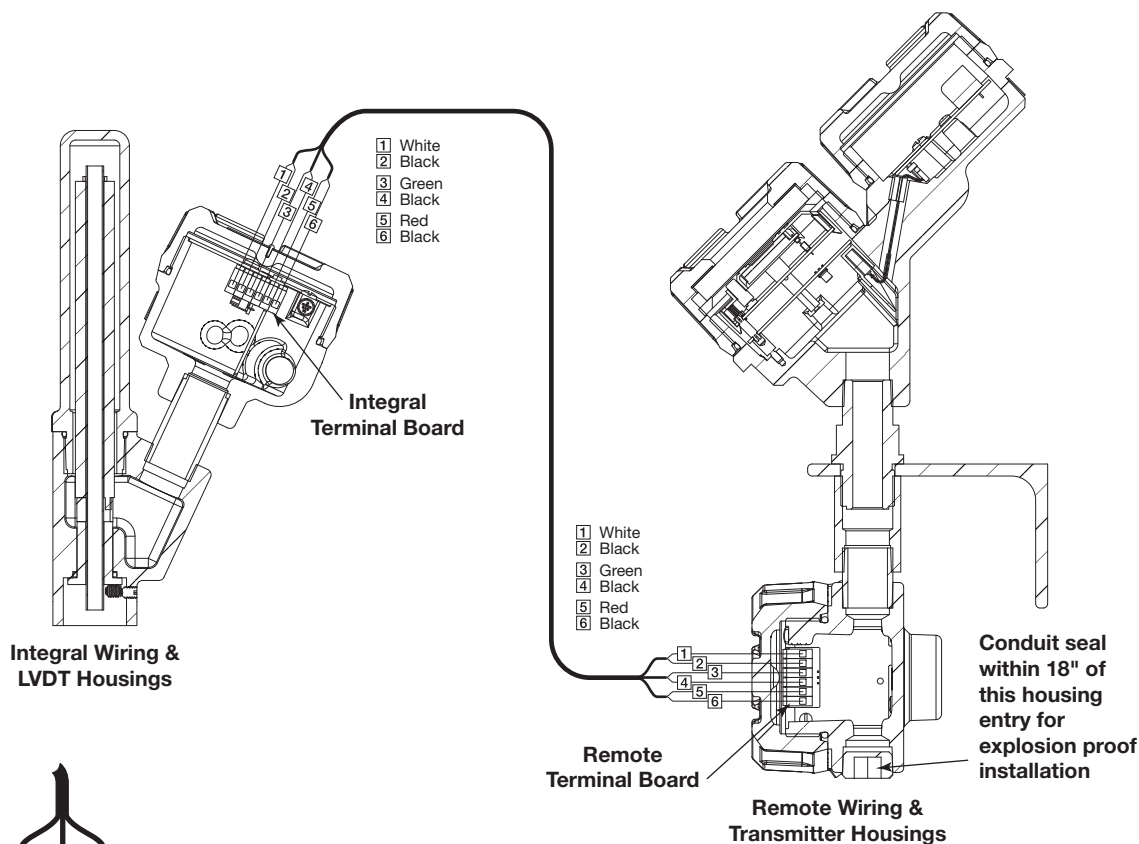

Figure 11
Wiring between the power supply and the E3 Modulevel transmitter should be made using minimum of 18 AWG shielded twisted pair instrument cable. Wiring must be suitable for temperatures up to at least $+85^\circ\text{C}$. Within the transmitter enclosure, connections are made to the terminal strip and the ground connections. When installing a remote mount E3 transmitter, refer to Figures 11 & 12 on page 14 for wiring connections.
3. Connect one end of the six conductor cable (P/N 037-3226-xxx or 037-3227-xxx) to the integral terminal block and the other end to the terminal block within the remote terminal board housing. Be sure to match the six discrete numbered wires with the numbers on each terminal block. See Figures 11 & 12 on page 14.
1. Install Explosion Proof conduit from the remote mounted E3 transmitter head to the integrally mounted terminal housing at the LVDT. An Explosion Proof conduit fitting (EY seal) is required within 18" of the remote mounted transmitter head wiring housing (see figure 11). Follow steps 2 through 7 of Remote Mount wiring procedure on page 12.